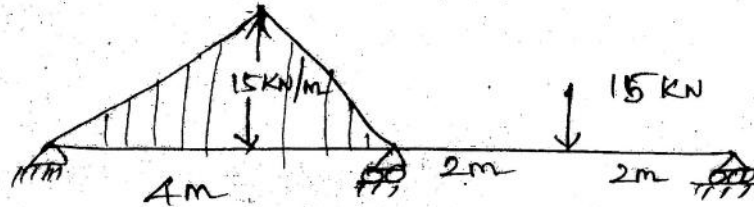

Figure-3.
3. Analyse the continuous beam shown in figure-3 by strain energy method.